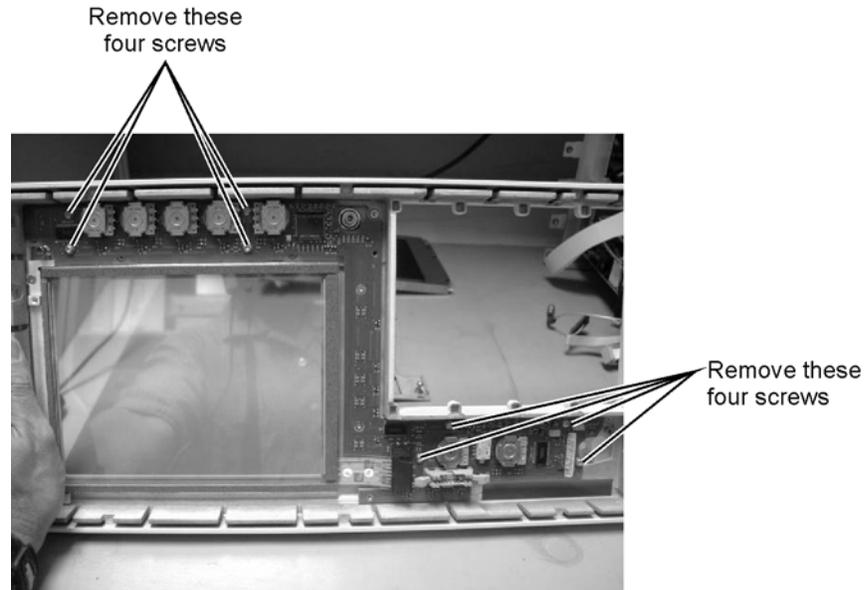

Figure 7-52. Removing the Keyboard Panel Screws
- 6 Remove the eight screws that secure the keyboard to the front panel, as shown in Figure 7-52.